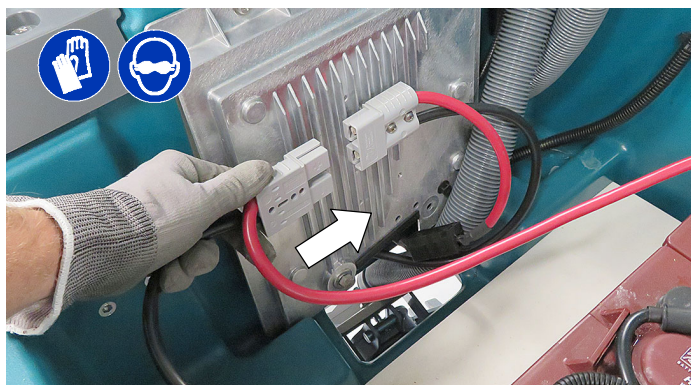

Fig. 13
- Reconnect battery cable connector to the battery pack (Figure 13).